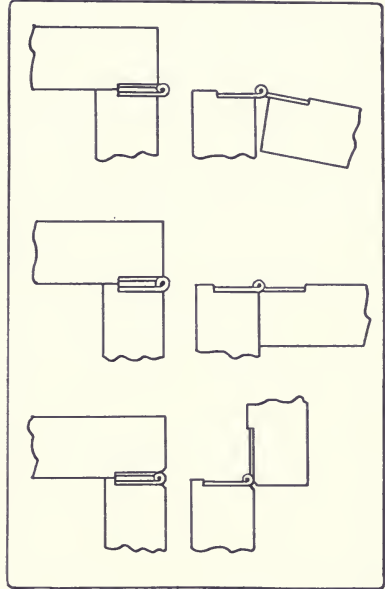

Fig. 235. Three Positions of Hinges.
A butt-hinge may be set in one of three positions, Fig. 235: (1) Where it is desired to have the hinge open as wide as possible, as in a door. Here the knuckle is set well out from the wood. (2) Where it is desired to have the hinged portion open flat and no more. Here the center of the pin is in line with the outside surface of the wood. This is less likely to rack the hinge than the other two positions. (3) Where it is desired to have the knuckle project as little as possible.